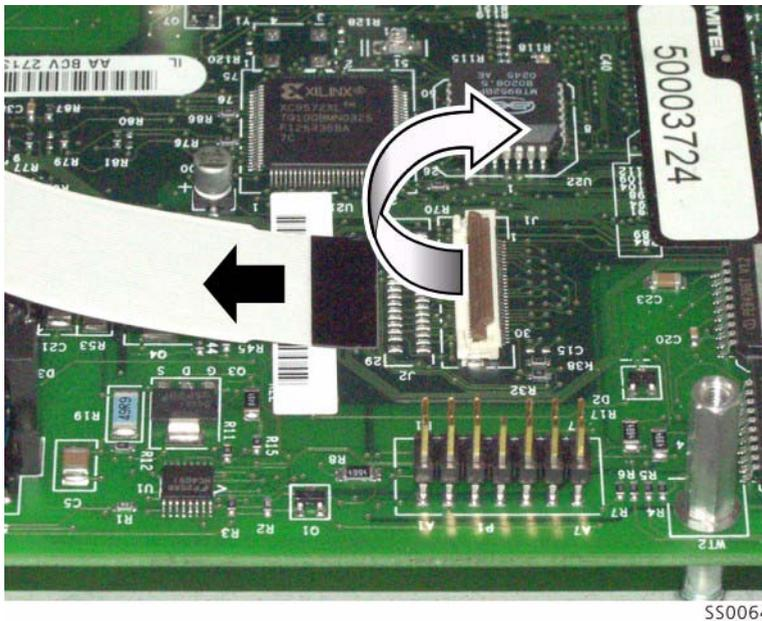

Figure 22: Analog Main Board Ribbon Cable
5. Remove the ribbon cable by flipping up the clip on the connectors at each end of the cable (see Figure 22 on page 135).